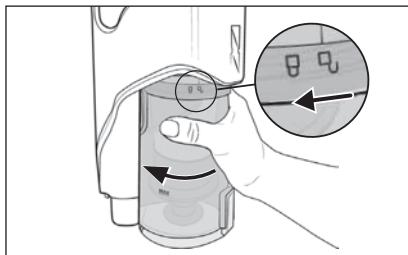

Fig. 17
- 2) To remove the dust container ⑥ from the appliance, turn it towards the symbol ⑨ (open) until it can be detached from the appliance (see Fig. 17).